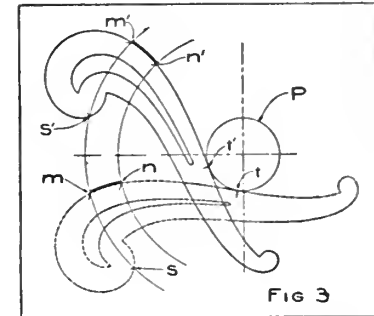

FIG 3
Place *Scroll* to coincide with given curve (**mn**) (FIG. 3). Mark point **n** on Scroll and draw *Circle P* tangent to Scroll at any convenient point (as **t**). Change Scroll to new position and draw **m'n'** as shown.
- (b) Then transfer to upper part of **P. C.** a portion of each curve thus developed to form **gear teeth**. (See PAGE 29, FIG. 3 for method of transfer.)